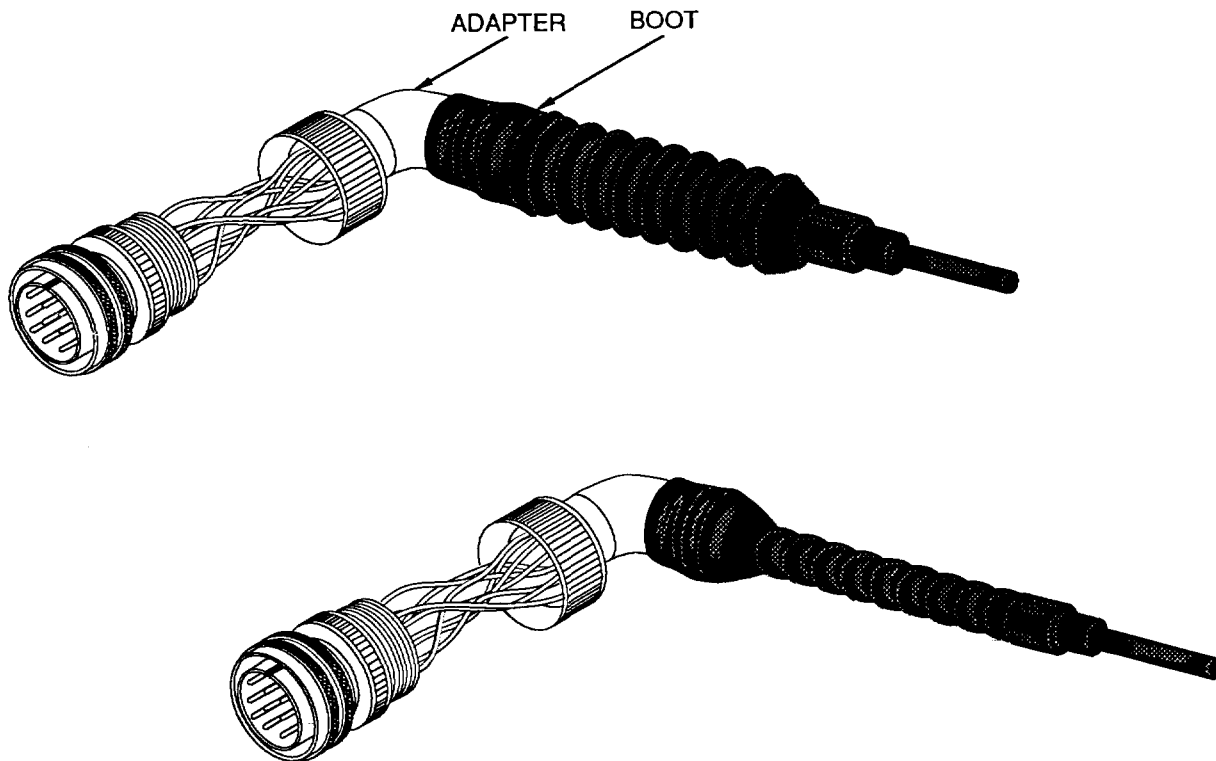

Figure 10. Adapter and Boot Pulled Back
d. Pull adapter and boot back from connector, exposing wiring, and hold boot back until cool (Figure 10)